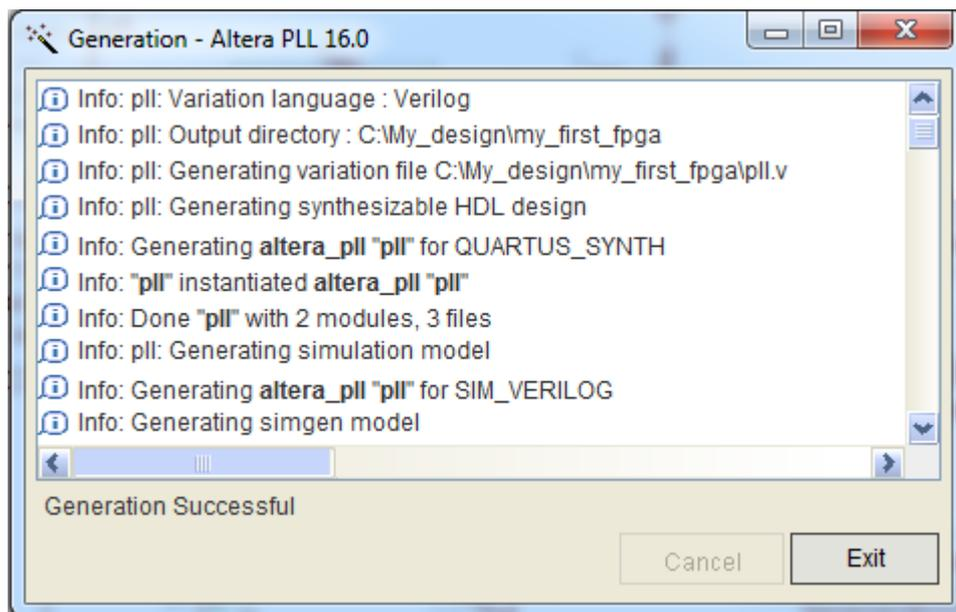

Figure 3-13 PLL Generation
8. Click Finish. It leads to **Figure 3-13**. Click Exit.